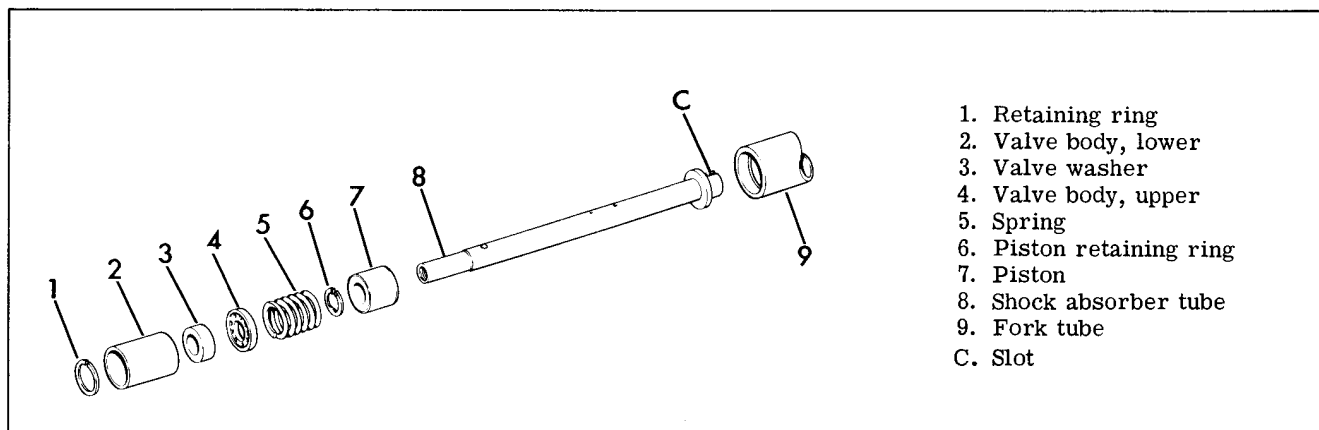

Figure 2-34D. Super Glide Front Shock Absorber - Exploded View
If snubbing action of the front fork remains unsatisfactory, bottoms on compression, stops suddenly on recoil and does not operate smoothly after eliminating malfunctions previously covered, disassemble fork as described in "Disassembling Front Fork Shock Absorber." Inspect shock absorber giving particular attention to the following parts (see Figure 2-34D: Check fit of damper piston (7) in fork tube (9) and fit on shock absorber tube (8). Check seating of washer (4) on upper and lower valve body faces. Replace worn or damaged parts.
Remove front wheel and brake assembly as described in "Wheels," "Removing and Installing Front Wheel." Remove front fender and headlamp housing. Remove fork tube cap (1). Loosen fork tube pinch bolt (4). Remove fork side (6) complete. Use Wrench, Part No. 94694-52, (see Figure 2-66A) and disassemble retainer (7) from top of fork tube (8). Remove spring (9) and drain hydraulic fork oil from fork tube. Turn assembly upside down and remove bolt and washer (12). It may be necessary to insert Tool, Part No. 95991-69 or a long screwdriver into 3/32 wide x 1/2 long slot C (Figure 2-34D) in upper end of shock absorber tube to keep it from turning while removing bolt (12). Free slider (10) from tube (8).
##### DISASSEMBLING FRONT FORK SHOCK ABSORBER (Figure 2-34D)
### ASSEMBLING FRONT FORK SHOCK ABSORBER (Figure 2-34D)